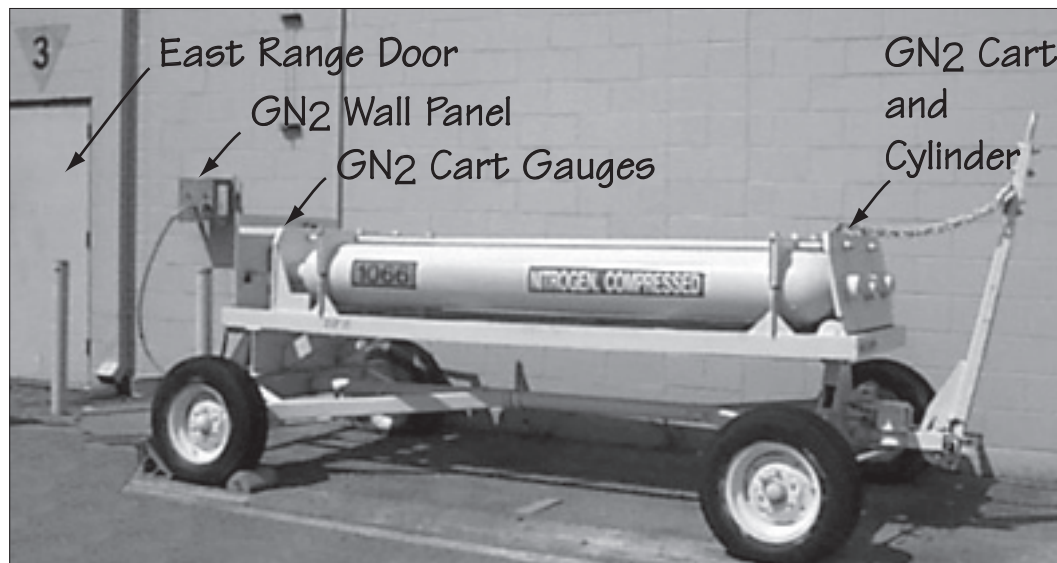

Figure 4.1-15.
4.1.10. Outside the east door of the range on the GN2 cart (Figure 4.1-15), **ensure** that the GN2 cylinder registers at least 100 psi.
4.1.11. **Open** the **GN2 Supply Valves** on the cart and the outside wall beside the cart (Figures 4.1-15, -16, and -17).